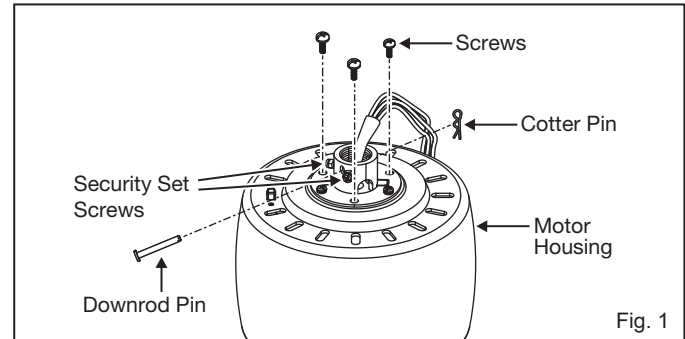

Fig. 1
- 1 Remove three of the six screws and lock washers (every other one) on top of the fan motor housing. Remove security set screws and the cotter pin and downrod pin on mounting collar. The downrod, ball cotter pin and downrod pin will not be used for this mounting (Fig. 1).
- 1 Remove ball from downrod by loosening set screw in the side of the ball. Slide ball down and remove cross pin; remove ball. (Fig. 1)
- 2 **Motor to Receiver Electrical Connections:** (Fig. 1) Connect the black wire from the fan to the black wire marked "TO MOTOR L" on the receiver. Connect the white wire from the fan to the white wire marked "TO MOTOR N" on the receiver. Connect the blue wire from the fan to the blue wire marked "FOR LIGHT" on the receiver. Secure all the wire connections with the plastic wire nuts provided.
- 1 Attach the blades and blade arms using the three blade attachment screws. Insert a blade attachment screws into the blade arm, but do not tighten. Repeat for the two remaining screws. (Fig. 1)
- 1 Remove one of the three screws on the mounting hub located on the fan motor. Loosen the other 2 screws. (Do not remove) (Fig. 1)
- 1 Select a desired location. Use the wall plate to mark the location of the mounting holes. Plastic wall anchors or mounting screws are needed for this application. (Fig. 1)